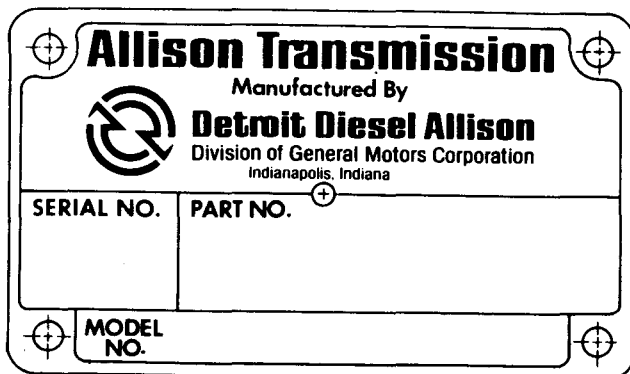

Fig. 1-5. Transmission nameplate
a. **Meaning of Letters, Numbers.** Each letter and number in the model designation (refer to fig. 1-5) of the transmission has a particular meaning in describing the transmission, as follows:
a. **See Nameplate.** Because of the difference in models and the various options and arrangements of optional equipment, each transmission has a part number (assembly number), serial number and model number. When ordering parts, always include these numbers (see transmission nameplate, fig. 1-5) in addition to the part numbers of the repair parts needed.